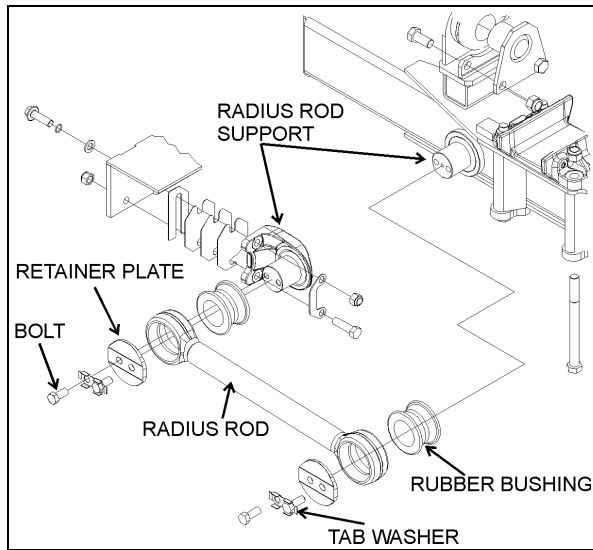

FIGURE 46: TYPICAL RADIUS ROD SETUP 16010
1. Flatten the tab washer which secures the two retaining nuts (or bolts), and then unscrew the nuts (or bolts) at each extremity of the radius rod (Fig. 46).